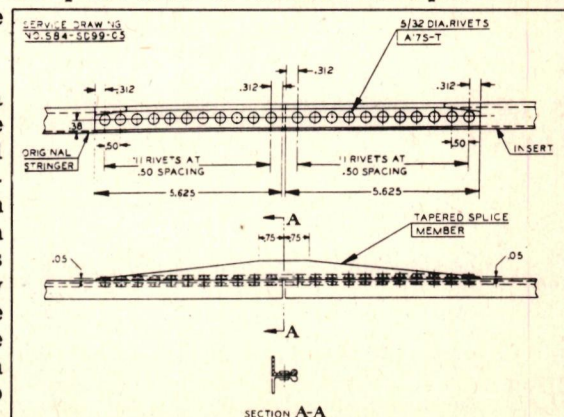

Figure 4-III - Extrusion Splice (CE-7062)
b. Extrusions.- Extrusions are used as stringers on the Model A-25A Airplane and a method is given for the repair of the most common type in fig. 4-III.
Care will be taken when cutting away a damaged portion. The splices cannot interfere with the bulkheads or other structure, but will be as close as possible to the bulkhead for rigidity. Only one splice will be located in each bay of a compression member, and splices in adjacent stringers will be staggered as much as possible. The splice plate can most conveniently be made of a piece of the same extrusion as the stringer and placing it back to back. The splice plate will be tapered in order to eliminate an abrupt change in cross-sectional area and to avoid stress concentration on the end rivets. See fig. 4-III. Larger rivets may be used in order to reduce the length of the splice plate.
The splice plate must be laid out as follows: Rivets are never placed closer than two diameters from the edge of the sheet or plate, measured from the edge of the sheet to the center of the rivet hole. Therefore, the distance from the edge of the splice plate to the center of the first rivet, in the above case, is $2 \times .156 = .312$ inch. The minimum rivet pitch or distance between rivet centers is 3 rivet diameters, or in the above case, $3 \times .156 = .468$ inches - use .50 inch for convenience. For one-half of the splice plate this would be $.312 + (10 \times .50) + .312 = 5.62$ inches. The second .312 inch is the distance from the last (11th) rivet to the end of the original stringer. The total length of the splice plate will be (minimum) 2×5.62 plus the gap between the original stringer and insert. This splice plate would be arranged as shown on fig. 4-III.